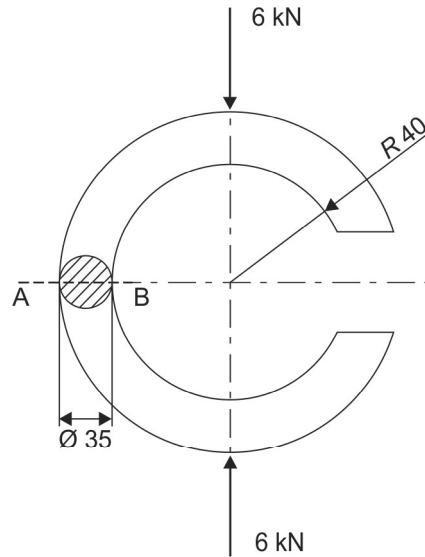

Fig. 1.15(a): Problem 10
11. Calculate the stresses at the points A and B for a circular beam as shown in Fig. 1.15(a). The circular beam is subjected to a compressive load of 6 kN.